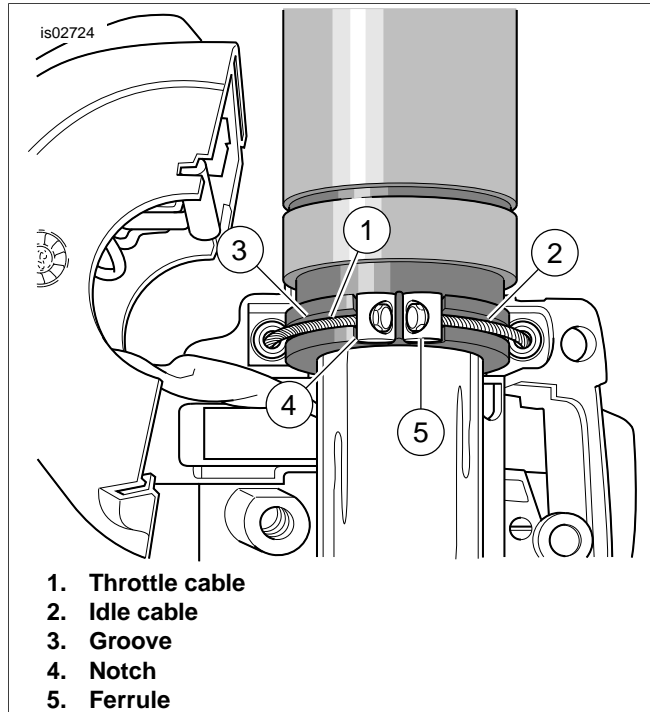

Figure 5. Remove Throttle and Idle Control Cables
5. See Figure 5. Remove the brass ferrules from the notches on the inboard side of the throttle control grip, then remove ferrules from the cable end fittings. Save ferrules for re-installation.
14. Refer to Figure 5. Position the new lower switch housing beneath the throttle control grip. Install the brass ferrules onto the cables so that the end fittings seat in the ferrule recess. Seat the ferrules in their respective notches on the throttle control grip. Verify that the cables are captured in the grooves molded into the grip.